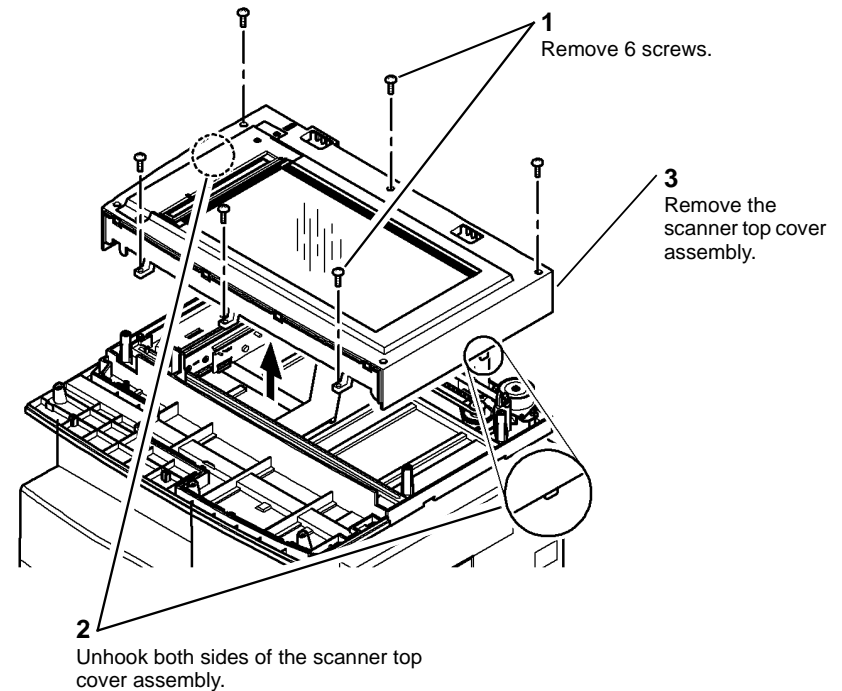

Figure 1 Top cover removal
3. Remove the scanner top cover assembly (Figure 1).